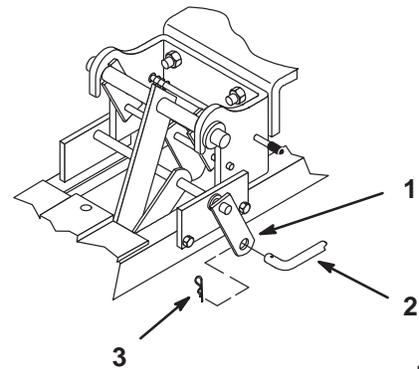

Figure 8
5. Place the lift rod into the lift arm and secure with a large hairpin cotter (Fig. 8).